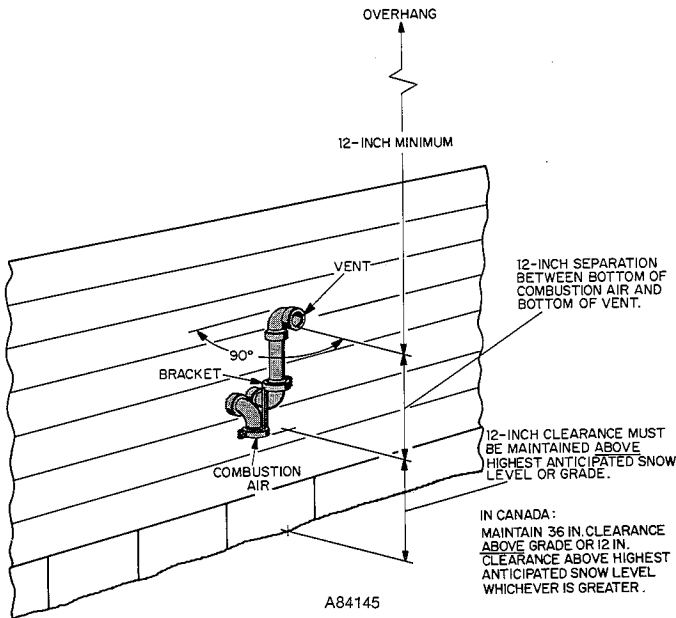
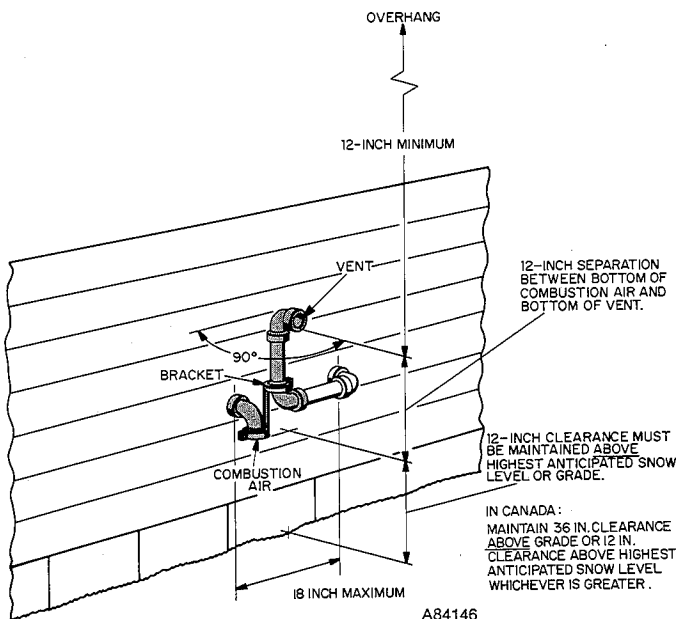

Fig. 4—Sidewall Termination Above Snow Level or Grade
Fig. 5—Sidewall Termination Above Snow Level or Grade
2. Sidewall terminal installation when combustion-air and vent pipes exit through sidewall 12 in. or more above highest anticipated snow level or grade. See Figs. 4 and 5. In Canada, pipes must exit a minimum of 36 ins. above grade.
- c. Install elbows as shown in Fig. 4 or 5 using same procedures for cementing as used for system piping.
- d. Install bracket as shown in Fig. 4 or 5.
- e. Position vent outlet pipe and elbow as to maintain 12-in. separation between vent pipe outlet and combustion-air inlet. Cement vent pipe in elbow as shown in Fig. 4 or 5.
- f. For applications using vent pipe option as shown in Fig. 5, rotate vent elbow 90 degrees from position shown in Fig. 4.